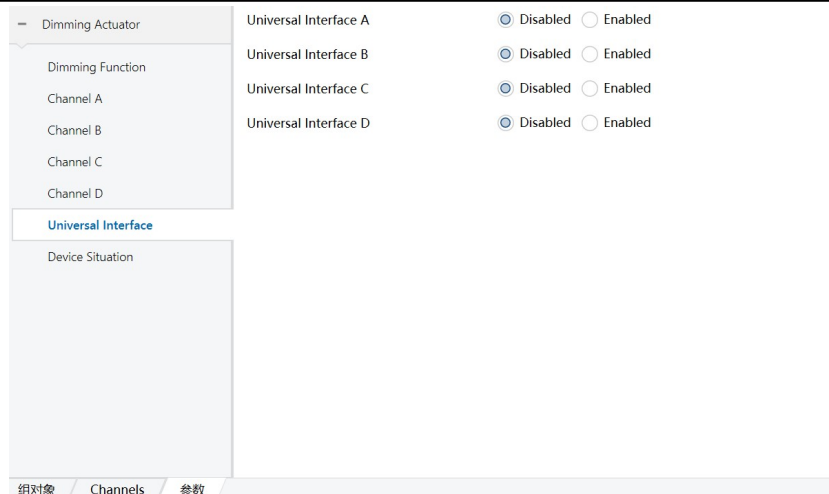

Figure 6.1.6
1) Click "Universal Interface" as shown in Figure 6.1.6, Universal Interface A-D is set to enable, four dry contact interfaces will be enabled.